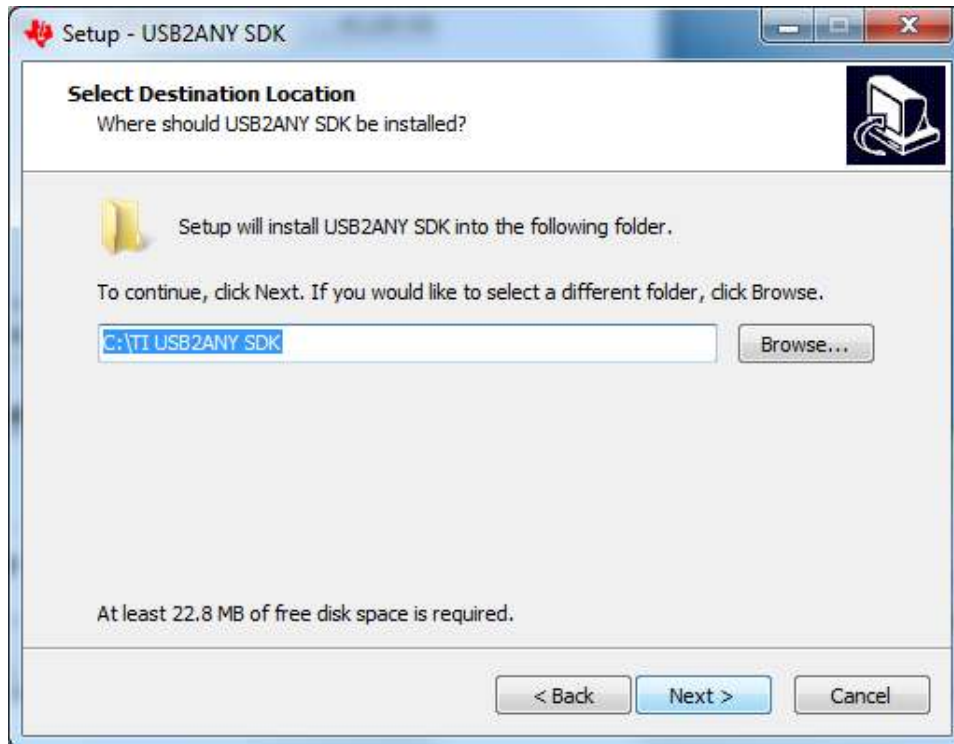

Figure 25. USB2ANY Destination Directory
10. Set the destination directories for the USB2ANY installation and click the *Next >* as shown in Figure 25.